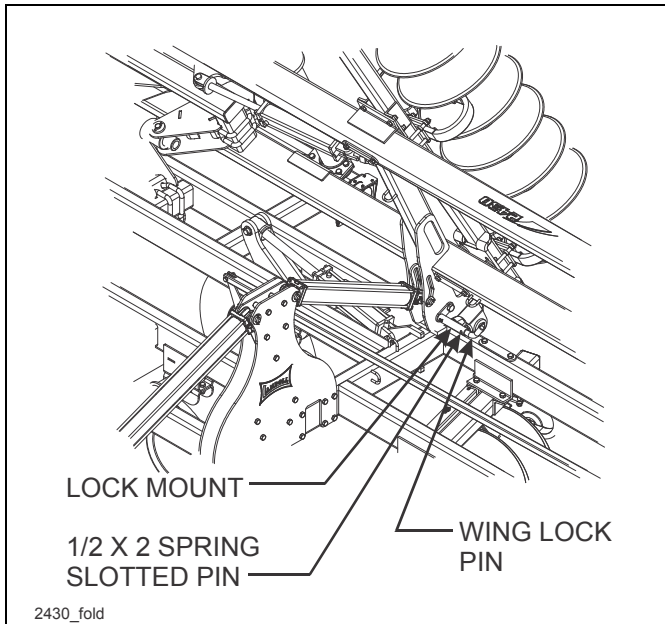

Figure 4-14: Position in Folded Position
7. Install transport locks on both lift cylinders. Do not depend solely on implement hydraulics for transport. (See Figures 4-14 and 4-15)